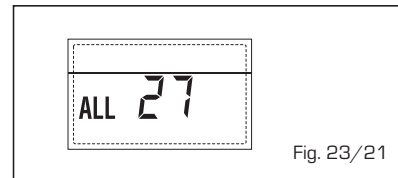

Fig. 23/21
**- SAFETY THERMOSTAT INTERVENTION FIRST MIXED ZONE "ALL 20" (fig. 23/q)**